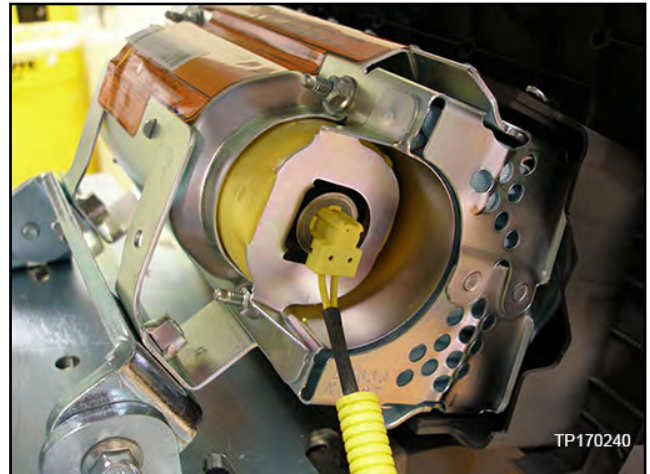
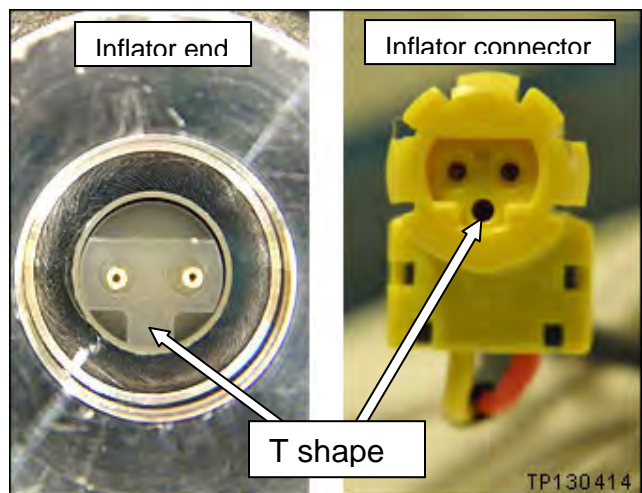
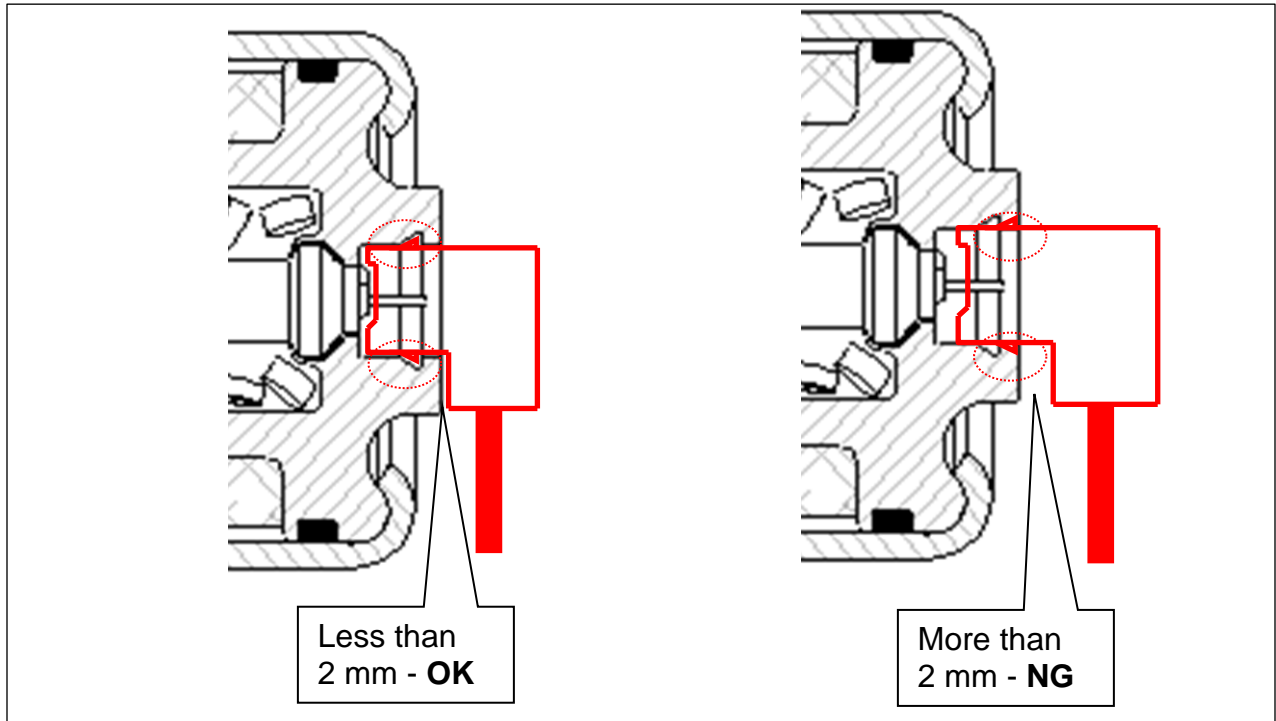

Figure 33
Figure 34
Figure 35
- Refer to Figure 33, Figure 34, and Figure 35 on page 20.
- Make sure harness connector is fully engaged / seated (Figure 35).